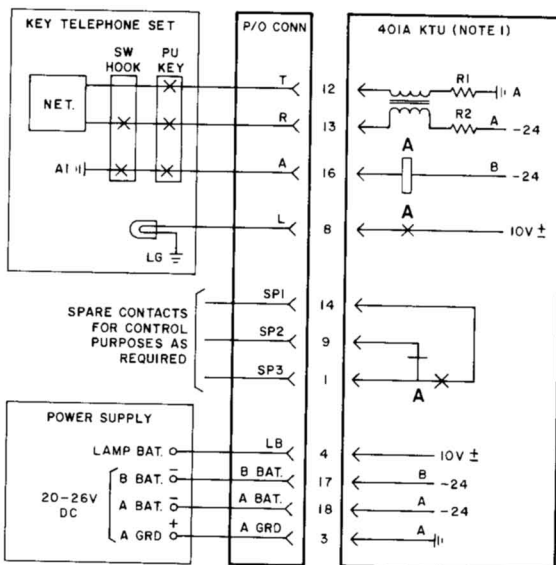

Fig. 4—Condensed Functional Schematic of 401A KTU (Manual Intercom Line Circuit)
1.08 Functional schematics (Fig. 4 through 21) cover the basic circuitry of each KTU, contacts used, and its relationship to telephone sets, other KTUs, power supplies, and apparatus. Dashed lines are used to simplify the schematics and to indicate intermediate circuitry. If full schematics are required, refer to the SDs listed in paragraph 1.11.
2.01 The 401A KTU (Fig. 4) is a 4-inch, 18-contact unit that provides talking battery for manual intercom and control for line busy lamp feature. Audible signaling between stations is accomplished by means of separately furnished pushbuttons, buzzers, or bells.